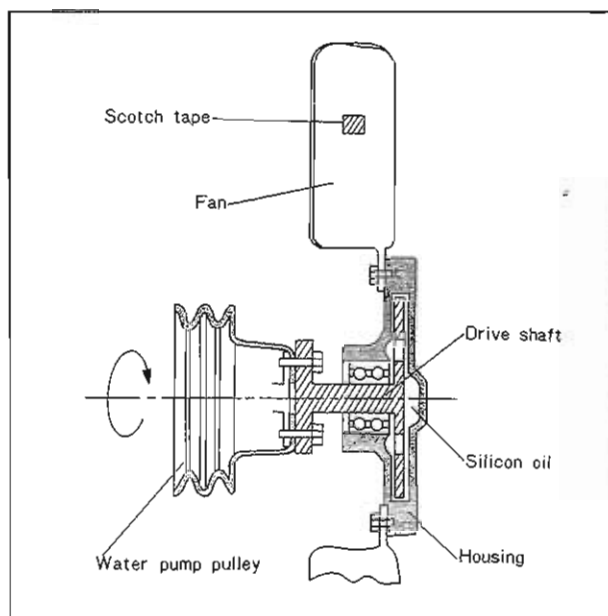

Fig. 3-8 Fan drive
As shown in Fig. 3-8, the fan drive is driven with the water pump pulley, and by the work of the silicon oil in the body, prevents the fan from marking more than a certain number of rotations.
1. Apply scotch tape to the positions on the fan as shown in Fig. 3-8.